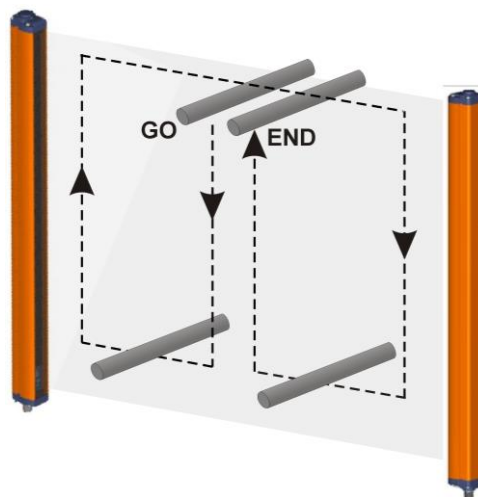

Fig. 12
- ESPE remains blocked (➡) intercepting the beams along the protected area using the specific test piece, following the Fig.12 scheme.